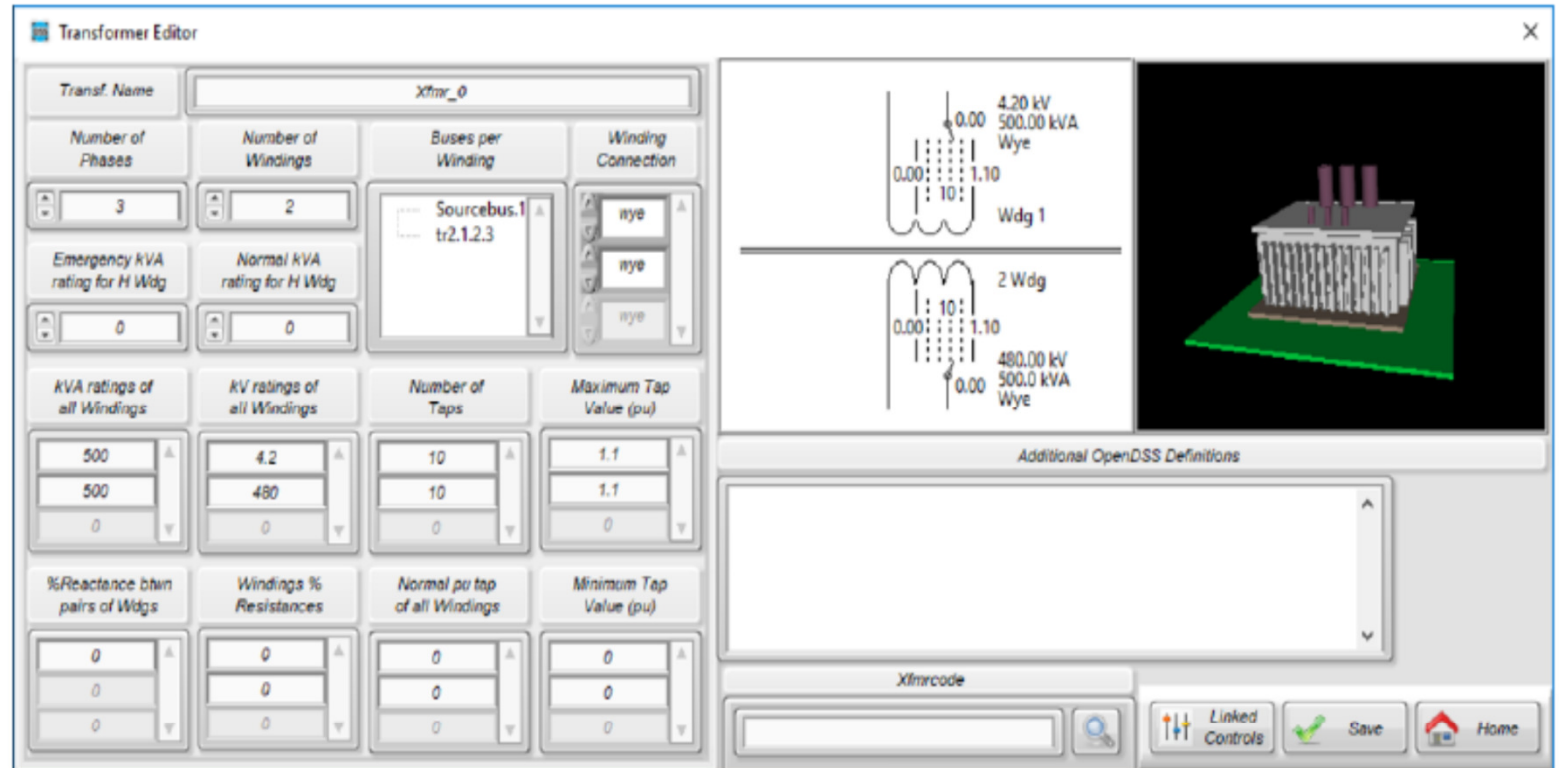

Fig.4 Adding a transformer to the model
- ▶ Before creating the transformer, the user must create another bus to connect the transformer secondary (second terminal). The second bus is called tr2 in this example as shown in Fig.4 (a).
- ▶ To create the new transformer, the PDE menu must be used as shown in Fig. 4 (b). The transformer can be configured using the information provided in Fig.4 (b).